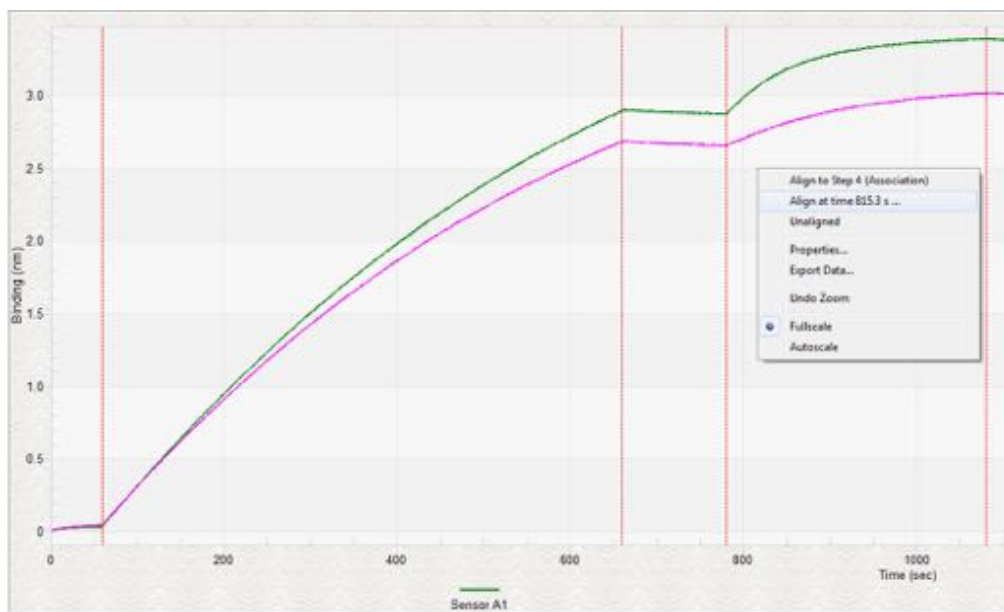

Figure 8-62: Runtime Binding Chart—Aligning the Data to a User-Specified Time
1. To align the binding data to a specific time, in the **Runtime Binding Chart** (see Figure 8-62), right-click and select **Align at time**.